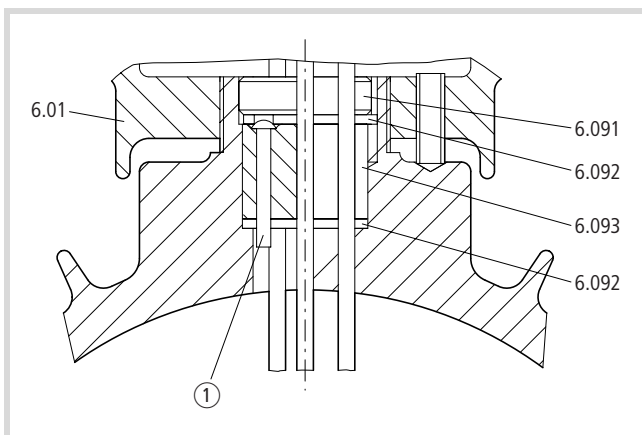

Figure 22: Passing the stator winding lead to terminal box
- ▶ Pass the stator winding leads and the additional cores through the sealing ring (6.093) located between two pressure plates (6.092) (→ Fig. 22).
The rivet head must lie under the upper pressure plate (6.092) (→ Fig. 22).